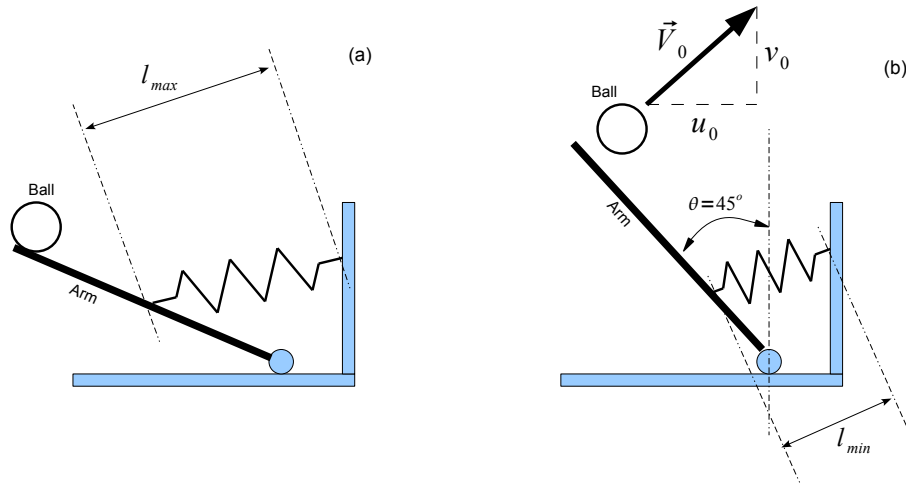

Figure 5: Catapult system. (a) System with spring extended, (b) system at launch point.
In Workshop 10, you will need to model the launch velocity of a catapult system shown in Fig. 5. The way the catapult works is as follows
- The arm is pulled back, putting potential energy into the spring(s) (see Fig. 5(a)). Note that even though only one spring is shown in Fig. 5, there could be more than 1 spring in the actual system.
- The arm is stopped by a bar (not shown in Fig. 5) such that the angle in which the ball is released, θ is 45° (Fig. 5(b)).